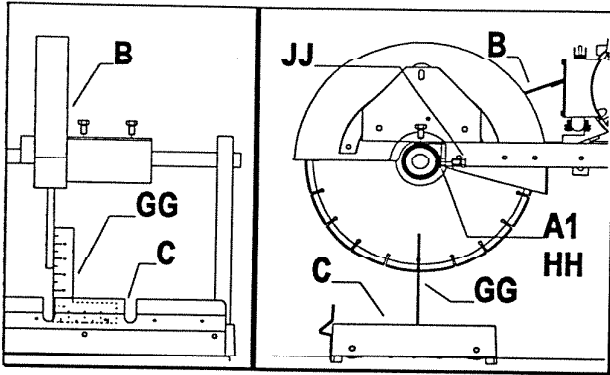

Figure 8
- 1) Loosen the nut holding the TOP *Wheel (X)*.
- 2) Adjust the *Setscrew (Y)* to force the Top *Wheel (X)* down against the *Track Bar (Z)*.
- 3) Re-tighten the nut holding the TOP *Wheel (X)* in position.
- **Blade Alignment (See Figures 8 & 9):** The blade shaft arbor on this machine is aligned at the factory so that a new blade will cut “square” with the material placed on the *Cart Assembly (C)*. If the saw or *Head Platform Assembly (B)* is dropped or damaged the blade could become mis-aligned so that it no longer cuts “squarely” through the material. If this occurs the blade shaft should be re-aligned so that the saw will produce “square” cuts. If the Blade is severely out of alignment [1/16” (1.5 mm) or more] the *Head Platform Assembly (B)* may need to be “bent” so that the blade is closer to being aligned. In cases of severe damage the Head Platform Weldment should be replaced. Precise alignment can be achieved by using *Shims (HH)* of various thickness. See the parts list for part number and thickness information about the shims.
- 1) Make sure the *Conveyor Cart (C)* rolls freely along the pan. If the pan is damaged it must be repaired or replaced before the blade can be aligned. Lock the *Head Platform Assembly (B)* securely in the horizontal position.
2) Supply a **Square (GG)** and place it on the **Conveyor Cart (C)** and roll the cart while the Square rests against the blade. Adjust the Blade Shaft Front-To-Rear (if required) by putting **Shims (HH)** between the blade shaft housing and the head platform weldment (Location "A1" in Figure 8). Loosen, but do not remove, the **Capscrews (JJ)** holding the blade shaft in position. Slide a shim, of the proper thickness, into position at one of the capscrews (around the thread) so that the blade shaft is aligned Front-To-Rear. Tighten the hardware and check the blade alignment. Add more shims if required until the blade shaft is aligned Front-To-Rear.